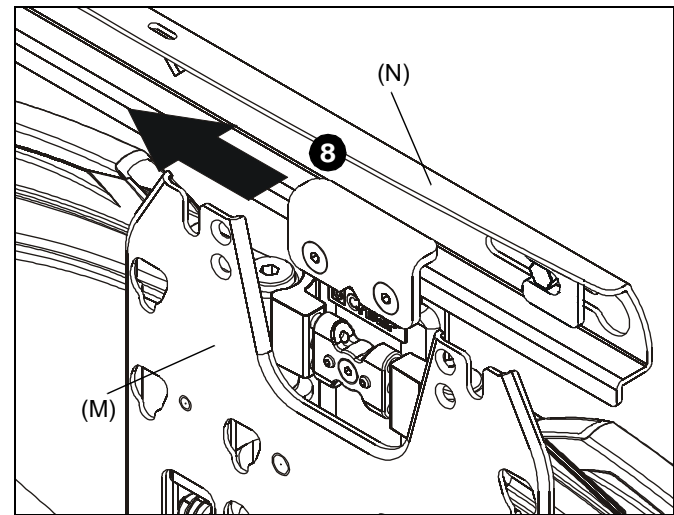

Figure 3
7. Slide main assembly (M) onto wall rail (N). (See Figure 3)